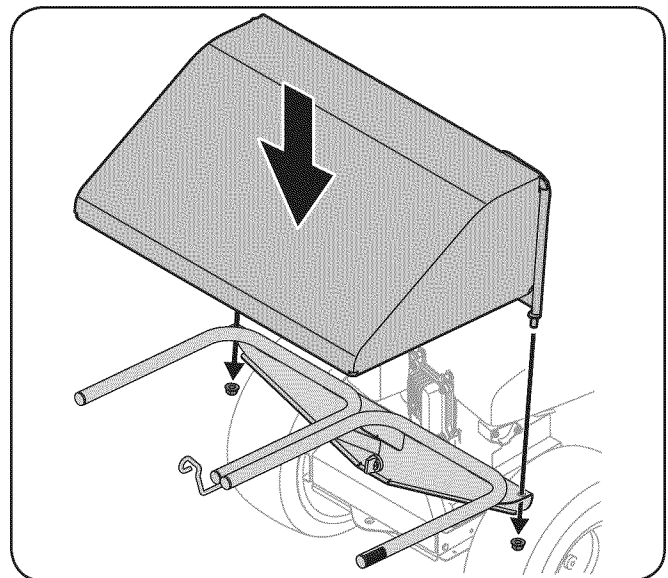

Figure 4
5. Remove the protective caps on the bagger cover hood mounting threads and attach the bagger hood over the grass-bag mounting assembly as shown in Figure 4. Align the tabs on the hood into the slots on the grass-bag mounting assembly. Secure the bagger hood using two flange lock nuts (712-04150) included in the same hardware pack.